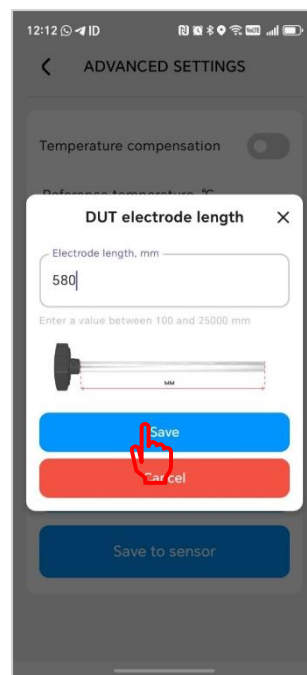

Fig. 5.23
- In the window that appears, enter the current length (Fig. 5.23)